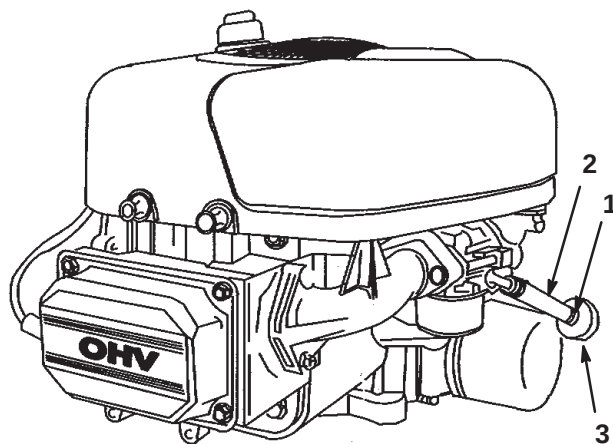

Figure 37
4. Loosen the hose clamp at the fuel filter and slide it up the fuel line away from the fuel filter (Fig. 37).
5. Pull the fuel line off of the fuel filter (Fig. 37).
7. Install the fuel line onto the fuel filter. Slide the hose clamp close to the fuel filter to secure the fuel line (Fig. 37).
4. Squeeze the ends of the hose clamps together and slide them away from the filter (Fig. 37).
6. Install a new filter and move the hose clamps close to the filter (Fig. 37).